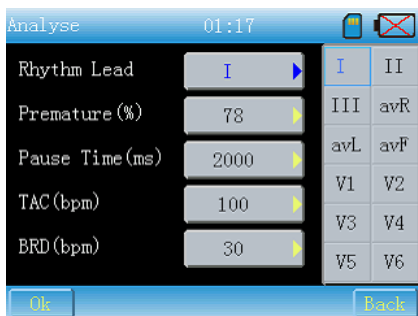

Fig. 7-21
(1) Rhythm lead: click button to call up the interface as Fig.7-21